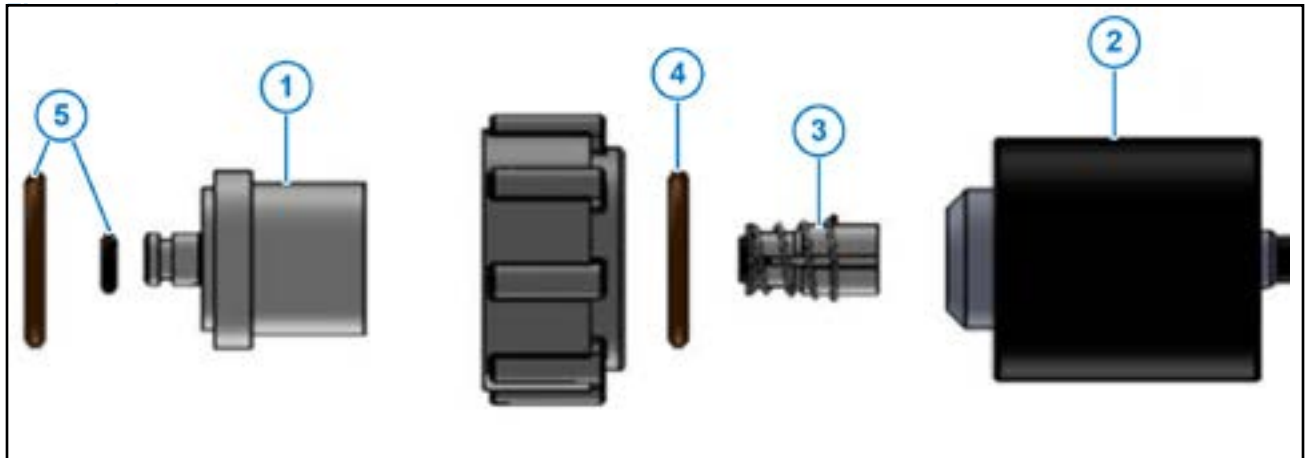

Figure 49: Nozzle Valve
2. Use pliers or other appropriate tool to hold the valve body (Figure 49, Item 1) so that the assembly coil harness faces the ground.
3. Rotate the coil (Figure 49, Item 2) counter-clockwise to remove the coil from the valve body.
4. Remove the plunger (Figure 49, Item 3) from the coil.
5. Inspect the O-ring (Figure 49, Item 4) on the coil.
6. Inspect the O-rings (Figure 49, Item 5) on the valve body.